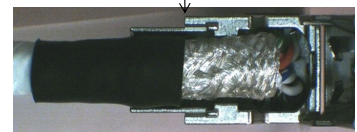
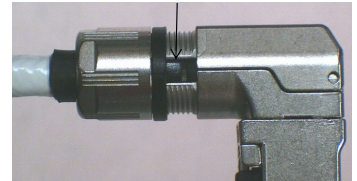

Figure 15 Collett guide located in slot
Figure 16 Tighten collet nut
- 13) Check for stray braids, remove as needed. Close the rear body halves together (Fig. 15), install the collet & collet nut onto the rear body, with collet guide located in the slot between rear body shell halves (Fig. 15). Tighten the collet nut until snug (Fig. 16).